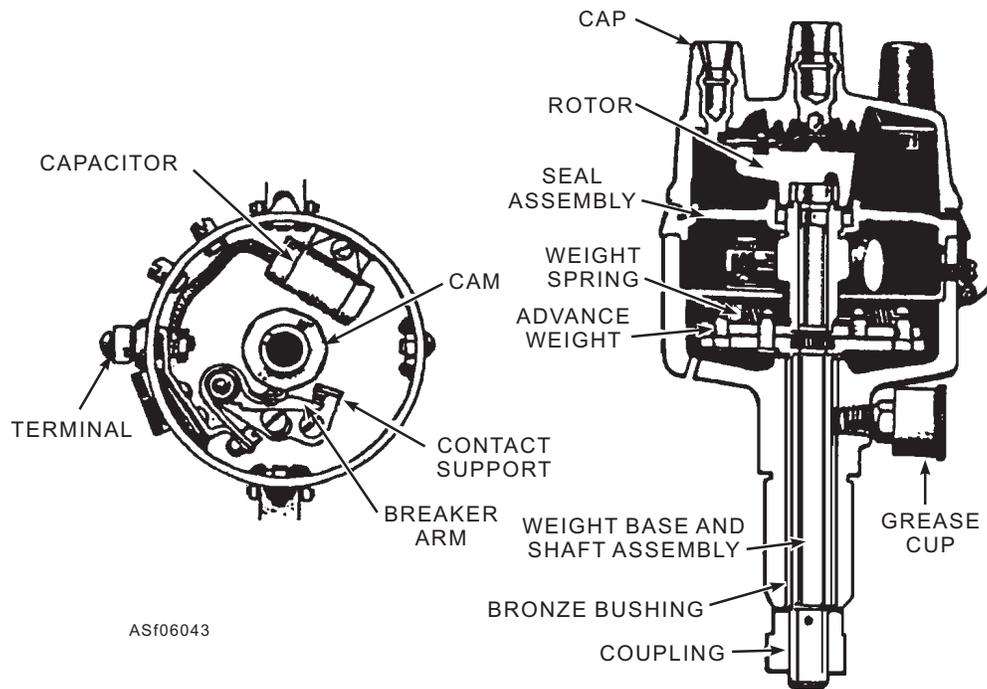

Figure 6-43.—Side and top view of a distributor.
**DISTRIBUTOR.**—The distributor (fig. 6-43) is a mechanical device that times the ignition spark and delivers it to the right cylinder. The distributor houses the capacitor, rotor, breaker points, and breaker cam. The breaker cam and rotor turn at one-half engine speed. The distributor is driven by the camshaft. The rotor conducts the high voltage from the ignition secondary coil to the separate spark plug leads. The distributor cap is mounted on top of the distributor. It has a center terminal for the lead from the secondary coil and separate terminals for each spark plug. The breaker cam is timed so the rotor is adjacent to one of the spark plug terminals each time the primary circuit is broken (breaker points open). The leads from the distributor cap are arranged so the rotor will conduct current to the spark plugs in the firing order of the engine.